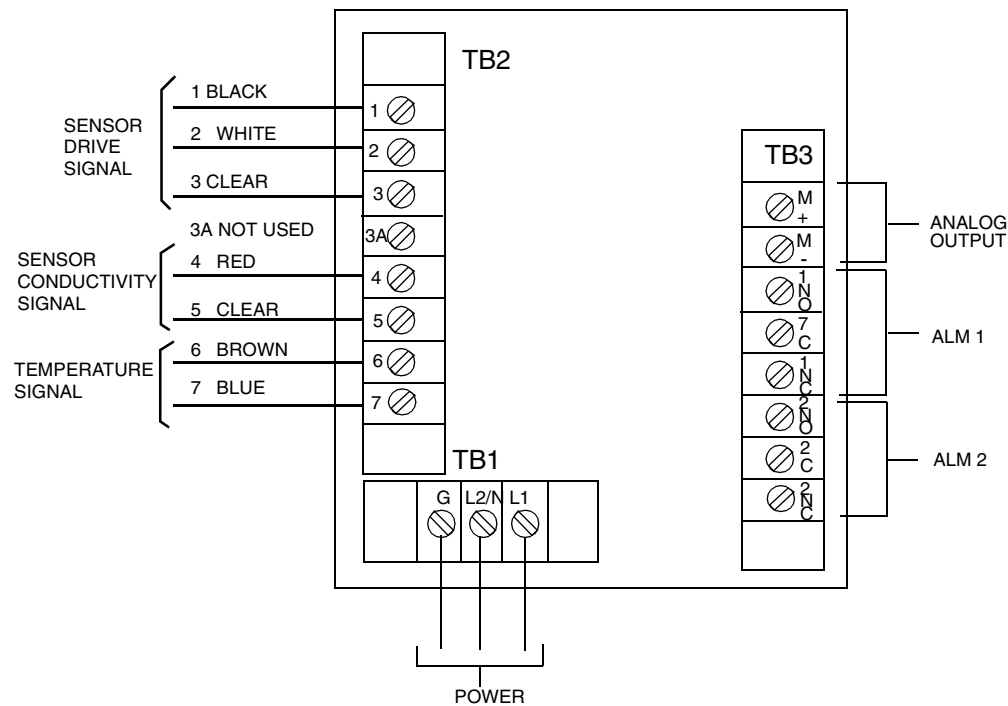

Figure 1. Rear Panel Wiring - Plastic Enclosure
2. Connect ALM 1 and ALM 2 alarm wires to terminal block TB3 as shown in Figure 1. Failsafe operation requires connections to be made between contacts NC and C. For details see “Wiring of Alarms” on page 21.
3. Connect wires from external circuit to analog output terminals TB3 (M+) and TB3 (M–). Refer to Figure 1.
5. Connect sensor wires to analyzer terminal block TB2 as shown in Figure 1.
6. Connect power wires to terminal block TB1 as shown in Figure 1.